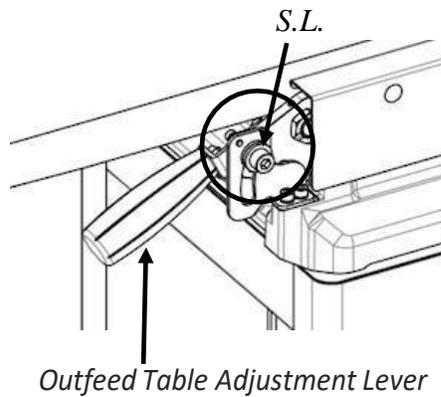

Figure 31: Screw Lock (S.L)
STEP 3: Use a hex wrench (not included) to loosen Screw Lock (S.L) to release outfeedtable adjustment lever as shown in **FIG. 31**.